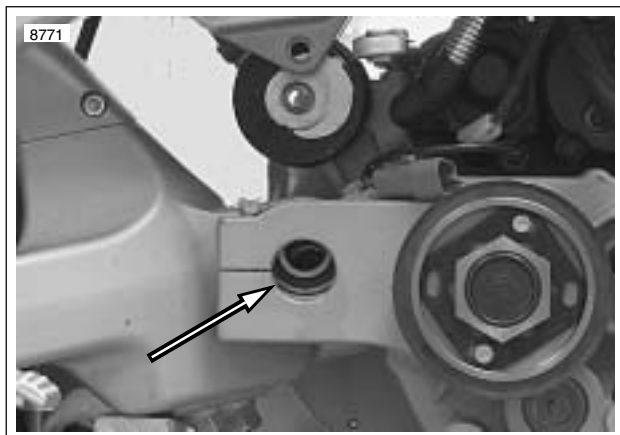

Figure 3-39. Aligning Swingarm to Crankcase for Pivot Shaft Installation
3. See Figure 3-39. With engine on a flat scissors jack, raise engine and chassis until swingarm and rear isolator mount align and pivot shaft can be installed.